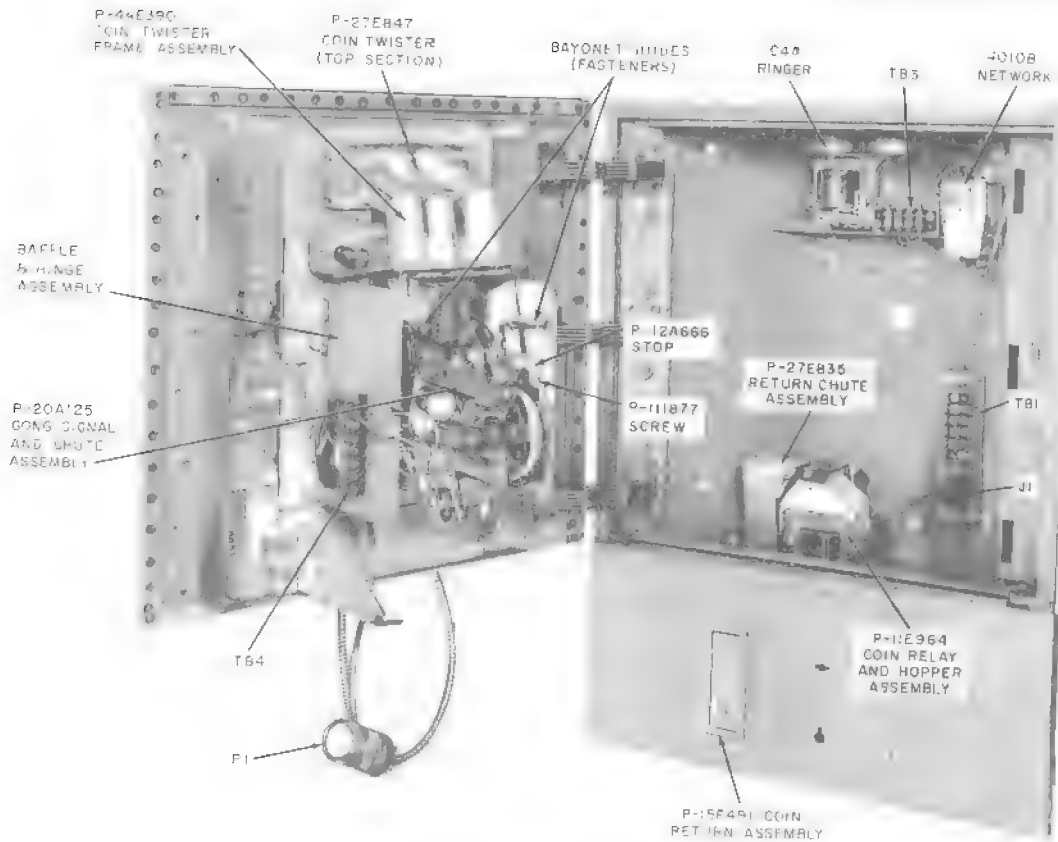

Fig. 5—235G or 1235G Coin Collector—Interior
Note: Do not open door fully until plug (P1) is disconnected (Fig. 5).
- (1) Loosen screws in middle of twister assembly (Fig. 5).
- (2) Lift P-27E847 coin twister (top section) up and out.
- (3) Remove screws and nuts holding P-44E390 coin twister frame assembly (Fig. 5).
- (4) Lift frame assembly up and off.
- (5) Install, using reverse procedure.
- (2) Remove P-111877 screw and P-12A666 stop (Fig. 5).
- (4) Loosen two P-11E183 bayonet guides on chute assembly (Fig. 5).
- (5) Lift gong signal and chute assembly off.
- (6) Install, using reverse procedure.
2.05 To remove baffle and hinge assembly (Fig. 5):